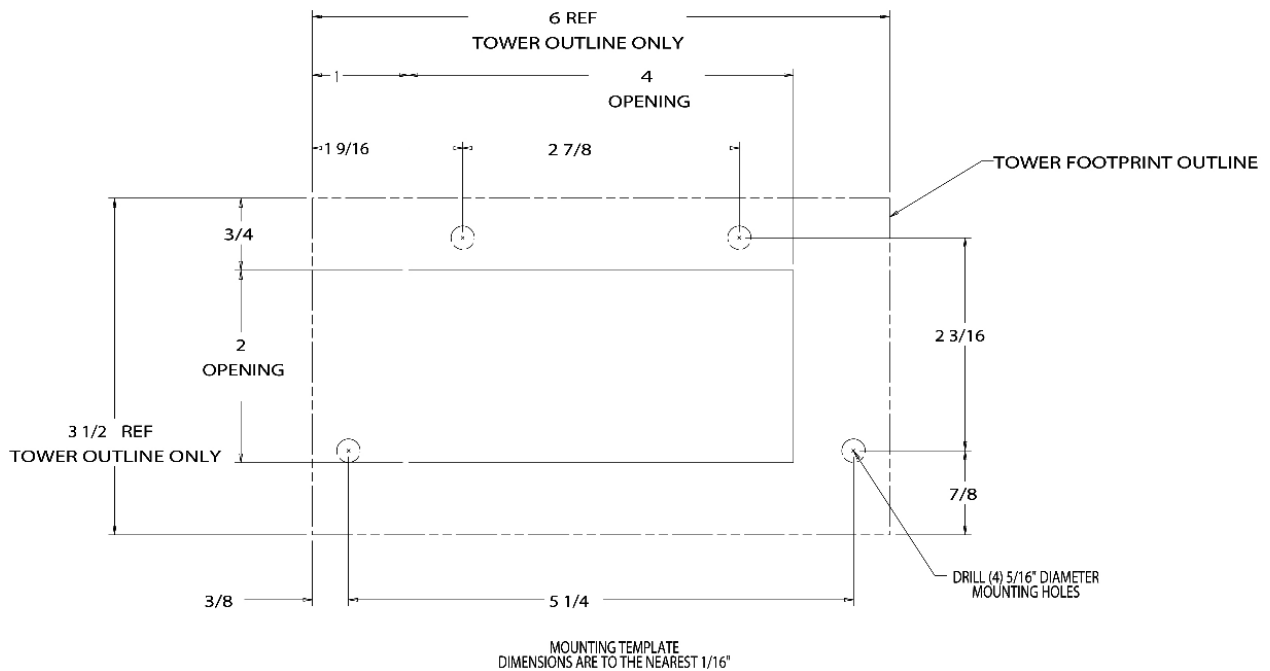

Figure 3.
3. Using the mounting template dimensions (Figure 3), drill and cut out the appropriate holes and openings for this application. Be sure to de-burr all cut edges in the counter top to prevent damage to the tubing.